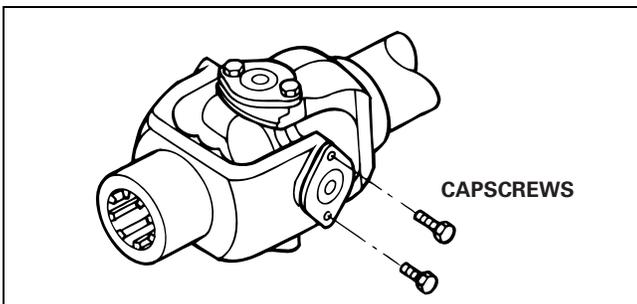

Figure 5.4
- Align the cover plate holes and the yoke ear. Figure 5.4. Install the bearing cover plate flush against the milled surface of the yoke.